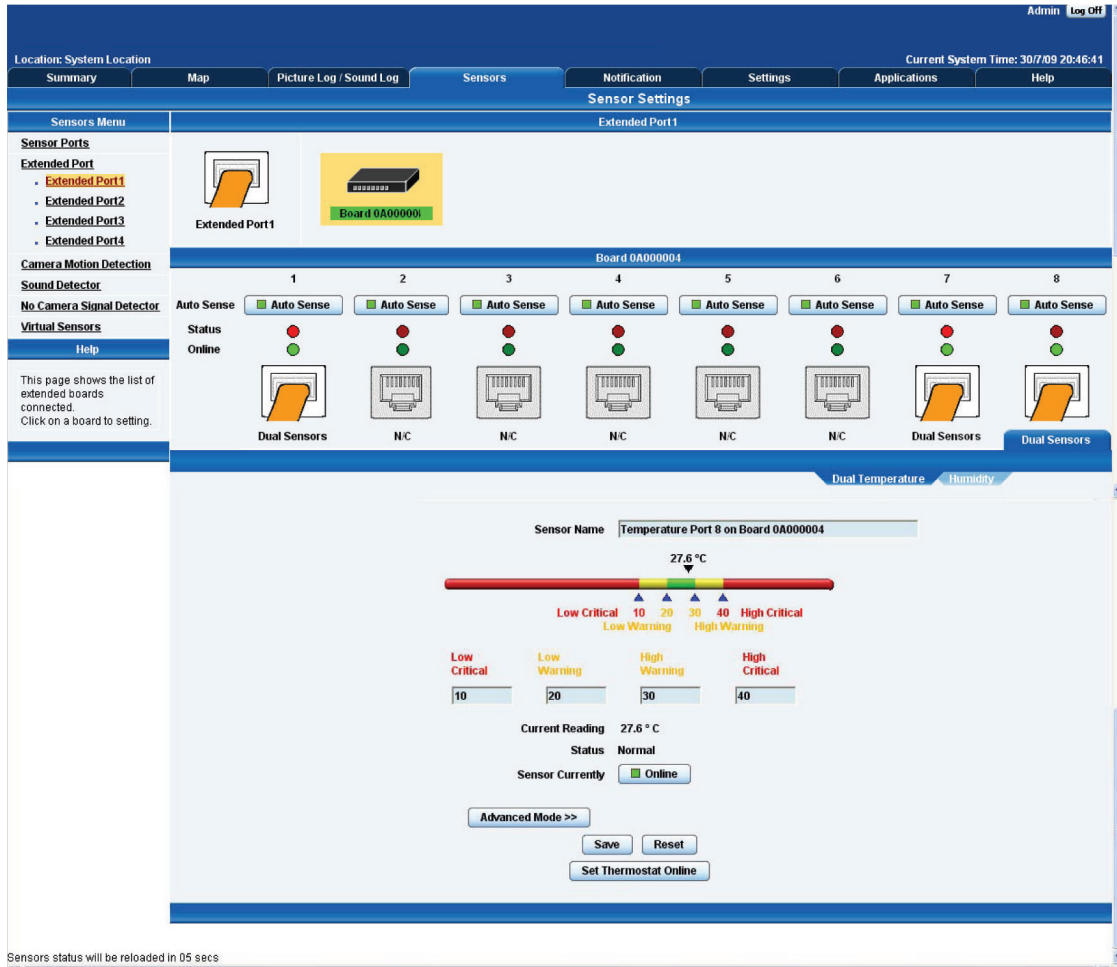

Figure 3-54. Notification Thresholds page.
5. Once you have clicked on the “Dual sensors” tab, you will be directed to the familiar-looking Notification Thresholds page (see Figure 3-54). From this page, you can carry out various operations as indicated in the sensor settings tutorials.